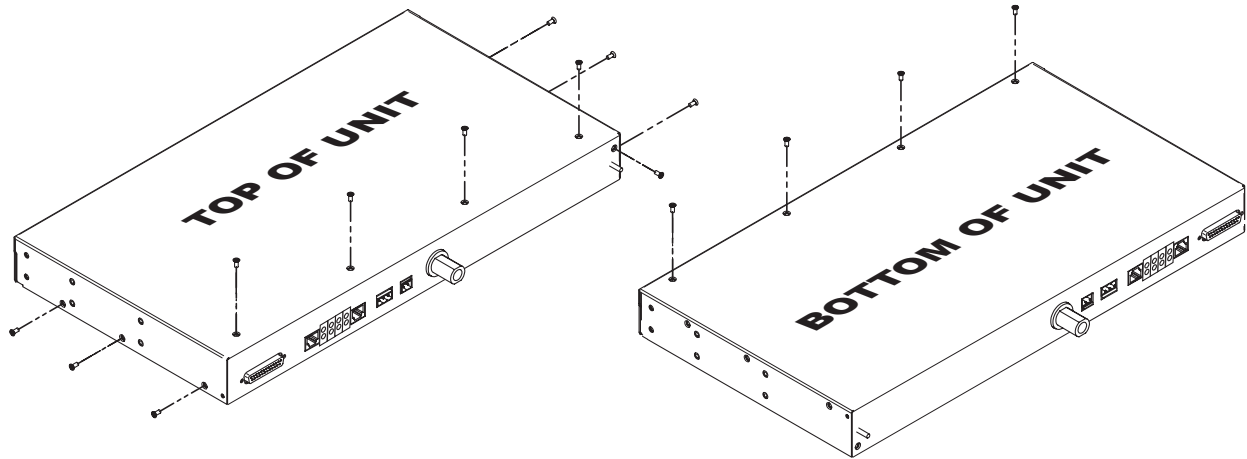

Figure 1. Removing the Cover Screws (TRACER 4x03)
1. Remove the screws from the chassis cover using a Phillips-head screwdriver (see Figure 1).